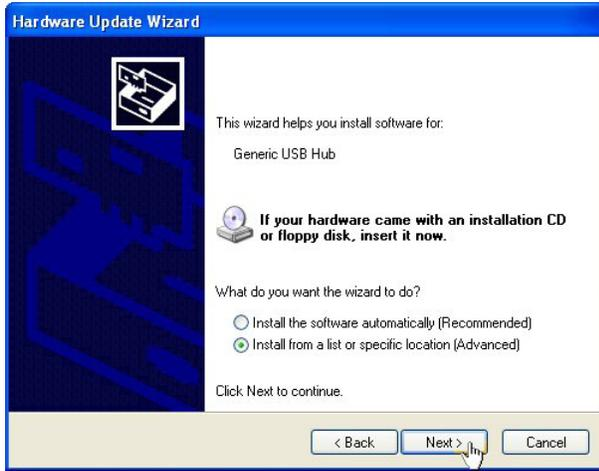

Fig. 58—Install options
7. Select **No not this time** radio button for the Internet driver search, then press the **Next** button. The wizard then offers installation options (Fig. 58).